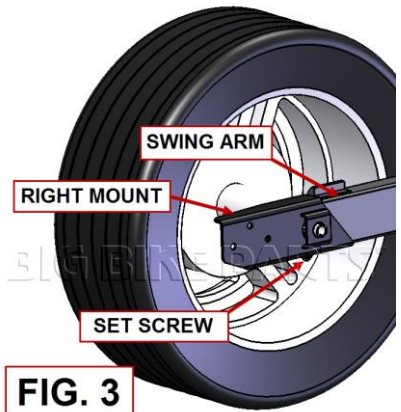

FIG. 3
5. STARTING ON THE RIGHT SIDE, SLIDE THE RIGHT MOUNT OVER THE END OF THE RIGHT SWING ARM (FIG. 3). HOLD THE MOUNT TIGHT AGAINST THE SWING ARM AND TIGHTEN THE SET SCREW USING A 4MM ALLEN WRENCH.